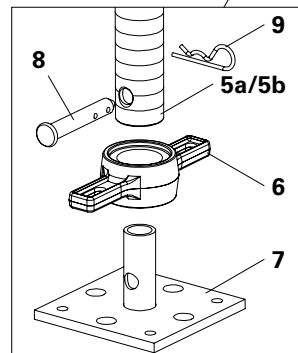

Fig. A2.01b
- Bolt the base plate for Spindle Tube TR 48 **(7)** onto Spindle Tube TR 48 **(5a/5b)** with bolt \varnothing 16 x 65/86 **(8)** and secure it with cotter pin 4/1 **(9)**. (Fig. A2.01b)